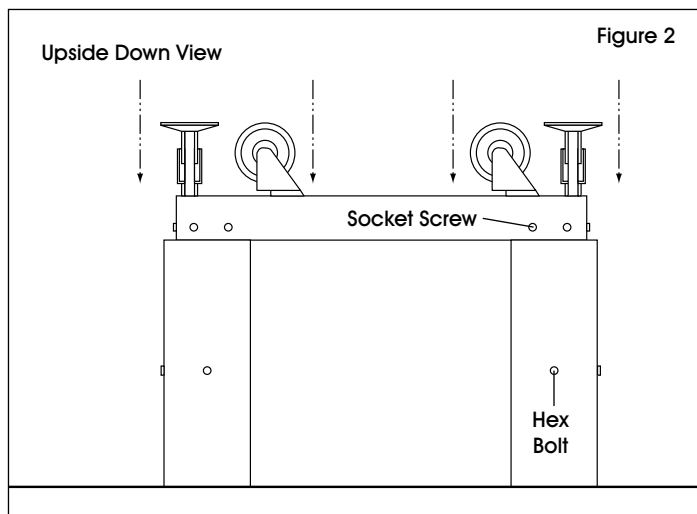

Figure 2
4. Screw feet into threaded holes provided on bottom of the shelf. Insert casters into nylon insert next to feet. (See Figure 2)